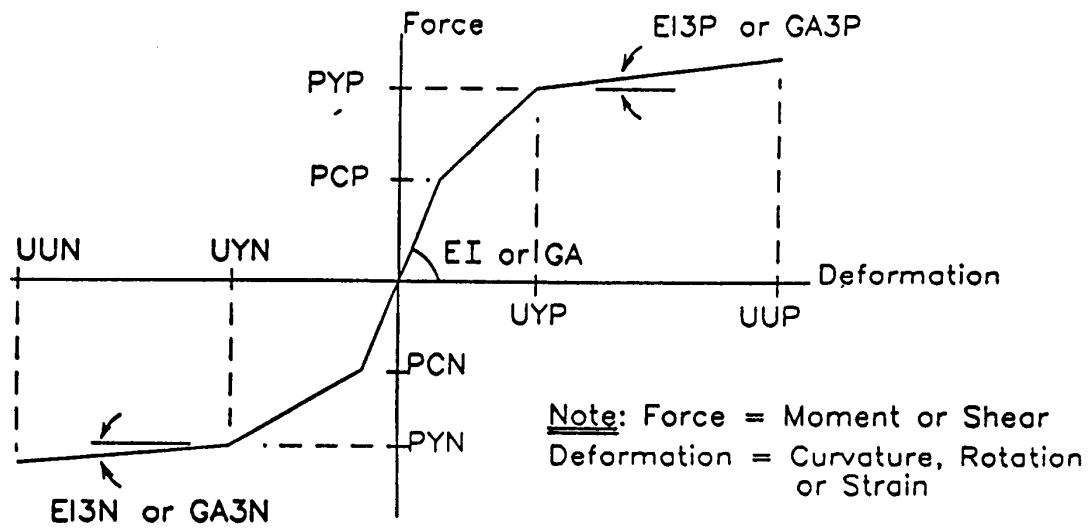

Fig. A-8 Notation for User Input Trilinear Envelopes
**SET D3(a):** **ICTYPE=1**; *Regular Column Input Data Set* (SEE FIGURE A-8)
#### **SET D3(b):** *ICTYPE=2; Deep Beam-Column Data Set* (SEE FIGURE A-8)